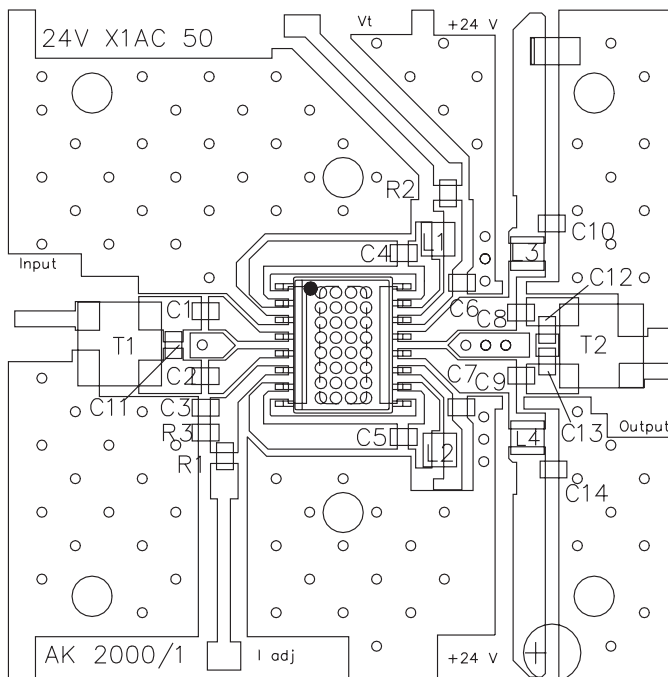
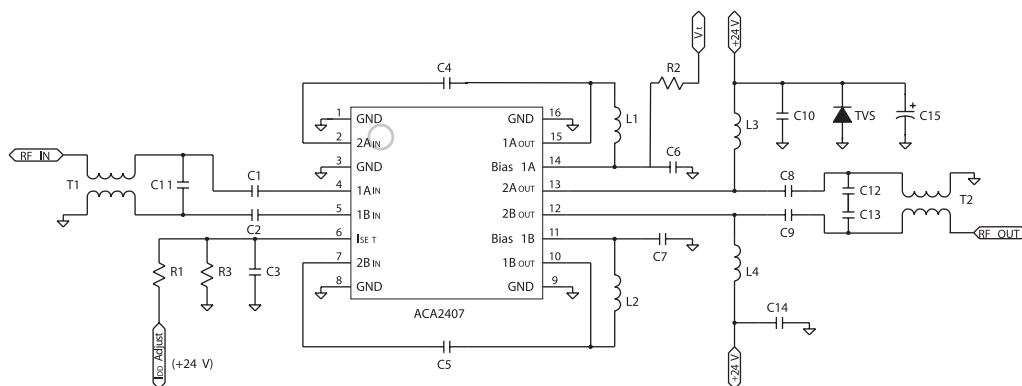

Figure 16: Evaluation Board Layout
Figure 17: Evaluation Board Schematic
(1) Measured with baluns on the input and output of the device.
(2) Parts measured with 77 channels flat output, +42 dBmV per channel.
(3) Parts measured with 110 channels flat output, +40 dBmV per channel.
(4) Parts measured with 128 channels flat output, +40 dBmV per channel.
(5) The supply current may be reduced by decreasing the value of R3 (see Figure 17)
(6) 47.5 dBmV output, 9.5 dB tilt @ 1 GHz
(7) 45.5 dBmV output, 9.5 dB tilt @ 1 GHz
8. All specifications as measured on Evaluation Board (see Figures 16 & 17).